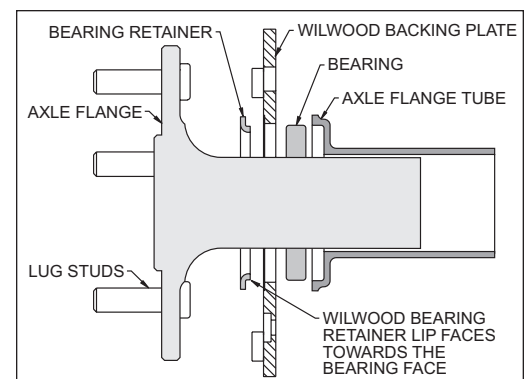

Figure 5. Retainer / Axle Diagram
- Make sure this is the correct kit to fit the axle housing flange, not necessarily the rear end make. Many times after market manufacturers put a different make of axle housing flange on the stock rear end housing (see Figure 5). Example; Big Ford rear ends with Olds-Pontiac flanges, therefore, an Olds-Pontiac rear disc brake kit would be the correct kit to order. Also, shock clearance may be a problem. They may have to be modified and/or relocated to clear the Wilwood kit after final assembly.